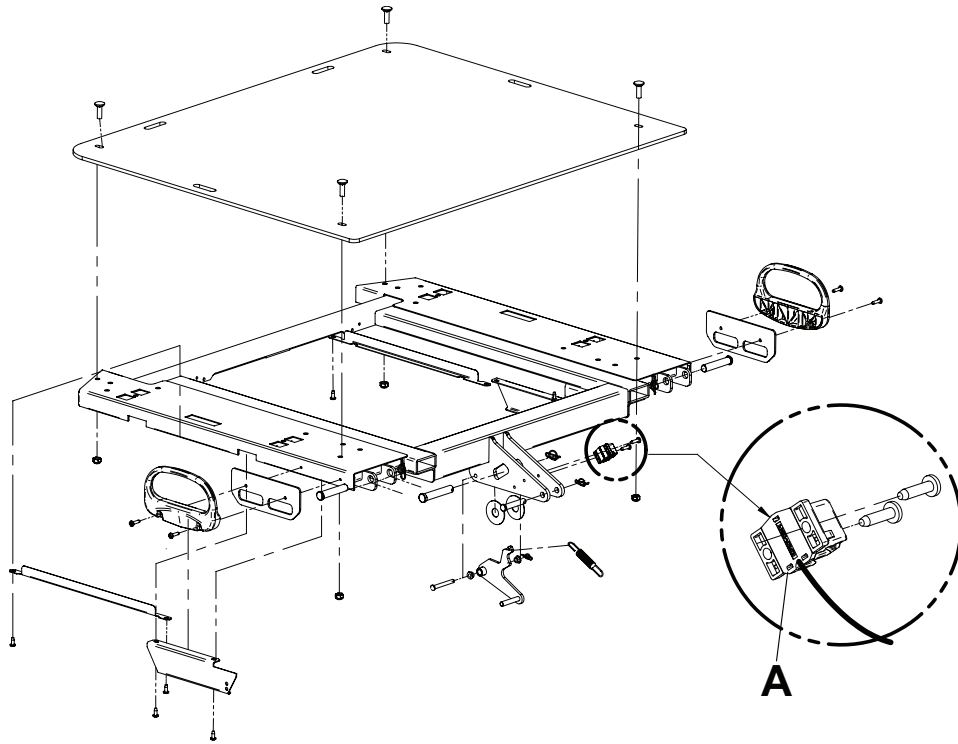

Figure 70 – Fowler angle sensor
5. Working from the left side of the bed, use a #2 Phillips short screwdriver to remove the two screws that secure the Fowler angle sensor (A) to the bottom of the Fowler frame (Figure 70). Save the screws.